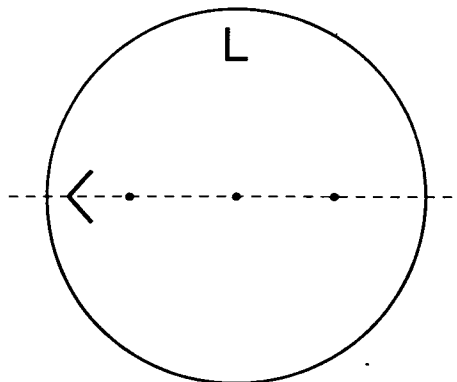

Fig. 9
4. Mark L or R on the top of the lens to indicate that whether it is for the left or right and place an arrow mark along the dots to indicate the nose side. (Fig. 9)